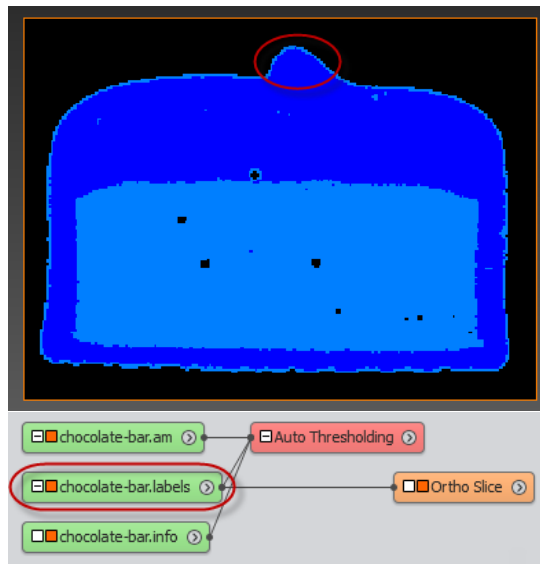
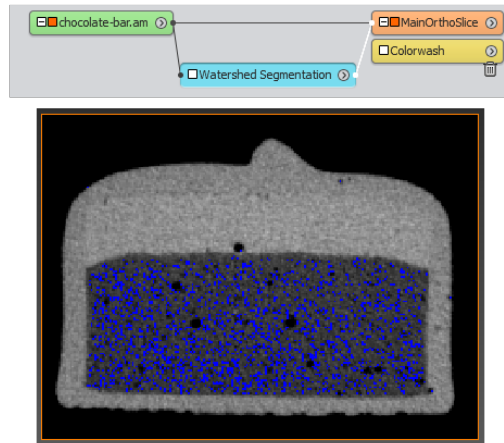

Figure 6.71: Automatically segmenting the image with *Auto Thresholding*.
Figure 6.78: The *Watershed Segmentation* wizard at step 5.
A mousse layer (light blue) seems to surround the chocolate topping (dark blue): the mousse between the exterior and the chocolate is actually an artifact due to partial volume effect (see Figure 6.71 and
- You can use 629-674 as range here. Again, the goal is to mark inner areas of the given material. (see Figure 6.78). If you select a lesser lower range, areas between the air and the chocolate will be selected, and it will result in the same artifact than the one introduced in Figure 6.71.